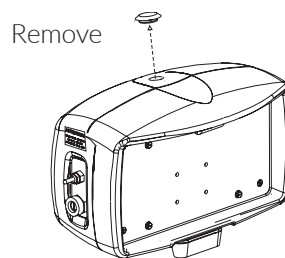

Figure 5-2
2. Using a coin or key, remove the cap on the top of the motor cover. *See Figure 5-2.*